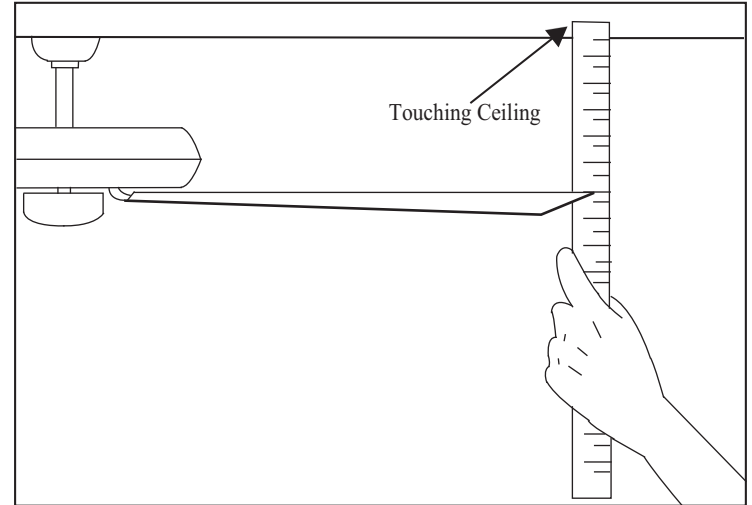

Figure 14
2. Most fan wobble problems are caused when blade levels are unequal. Check this level by selecting a point on the ceiling above the tip of one of the blades. Measure from a point on the center of each blade to the point on the ceiling. Measure this distance as shown in Figure 14. Rotate the fan until the next blade is positioned for measurement. Repeat for each blade. Measurements deviation should be within $1/8''$. Run the fan for 10 Minutes.